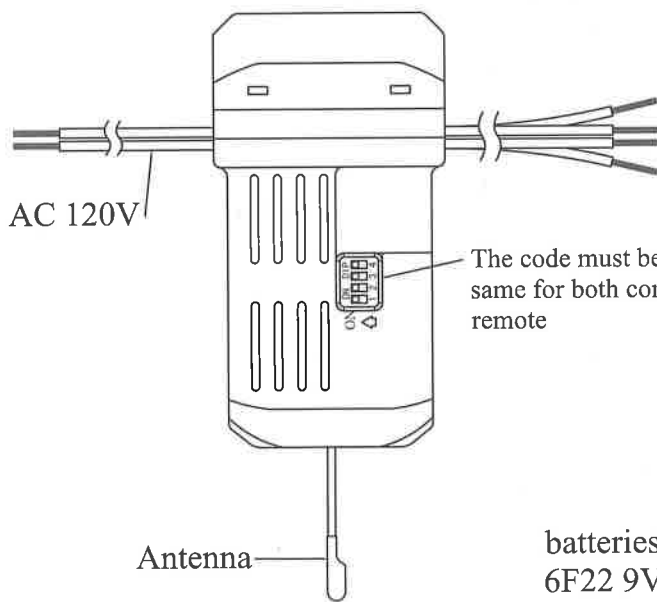

Fig.1 Controller
- 1: Slip the rod (B) with three holes aligning through hanger frame (A), insert the pin (C) through the hole of the rod (B) and fall into the groove of the half ball tightened with screw (D).
- 2: Put the rod (B) into the center column (E), align the side hole and hanger frame hole with screw (F). Fill the screw hole with pin (G).
- 4: An additional safety support is provided to prevent the fan from falling. Secure the safety cable to the ceiling joist with screw and washer as illustrated in Figure 1. Thread the screw (4) through washer (3), screw the hanger frame into junction box firmly. Cover the junction box with canopy (5), fasten the hanger frame (2) with screws (6).